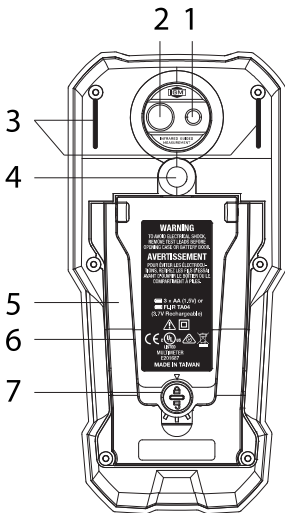

Fig. 4-2 Rear View
Connect the test lead holder accessory (optional) to the two slots on the back of the meter (item 3 in Fig. 4-2) and to the tripod mount (item 4 in Fig. 4-2). The test lead holder is ergonomic and protects the thermal imaging and laser pointer lenses.